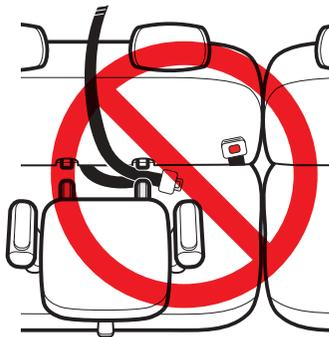

Figure 15b
- Do not secure this booster seat to the vehicle's UAS anchorage system if the seat belt or seat belt buckle is not easily accessible with the booster seat latched in place (see **Figure 15a** and **Figure 15b** on page 19).